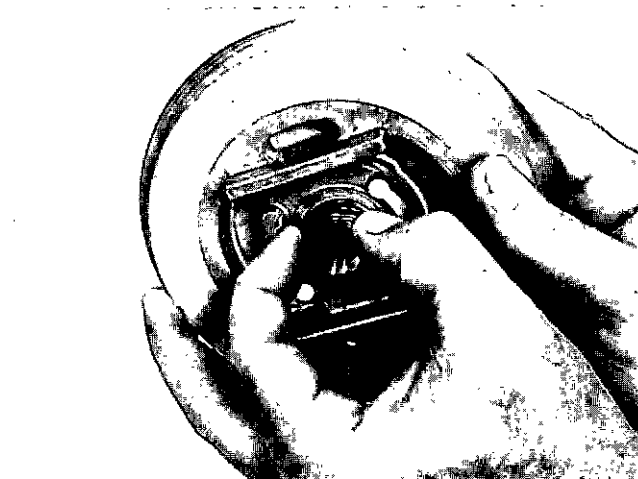

Fig. 4-28, (T465080). Install the sleeve into the oil seal plate
5. Lubricate the bore of the oil seal plate with 30W oil. Start the ring end of the sleeve into the pilot chamfer of the oil seal plate bore (1). Using finger pressure, compress the ring and push the sleeve into the bore until the edge of the sleeve is flush with the impeller side of the oil seal plate, Fig. 4-28.